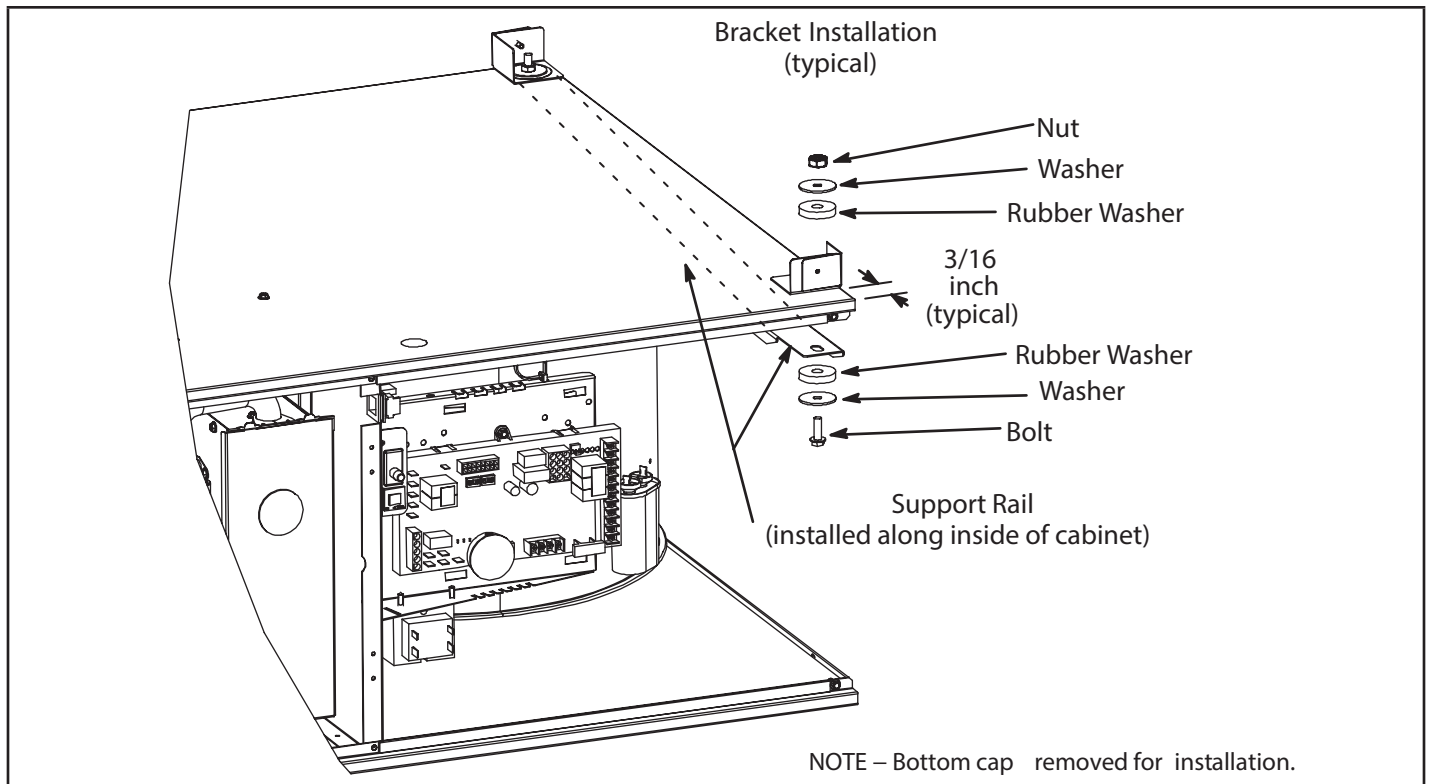

FIGURE 1
At return end, drill a hole by placing one bracket edge at 3/16” from the front, and aligning other edge to bottom of the unit. See figure 1.
- 4 - Position support rail inside return air end of the unit as shown in figure 1. Align support rail holes with the two holes drilled in step 3. Secure brackets to cabinet using provided bolts, washers and nuts. See figure 1.